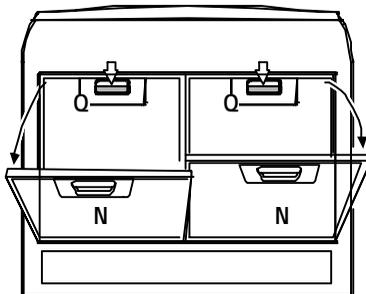

Fig. 4
Clean the filter every month or every other month according to how much the hood is used. The cleaner the filters, the more grease they collect. To remove the filters (Fig. 4):
- First of all, push the stop **Q** on the metal grease filter **N** back, and then extract the filter by pulling downward. **Fig. 4.**